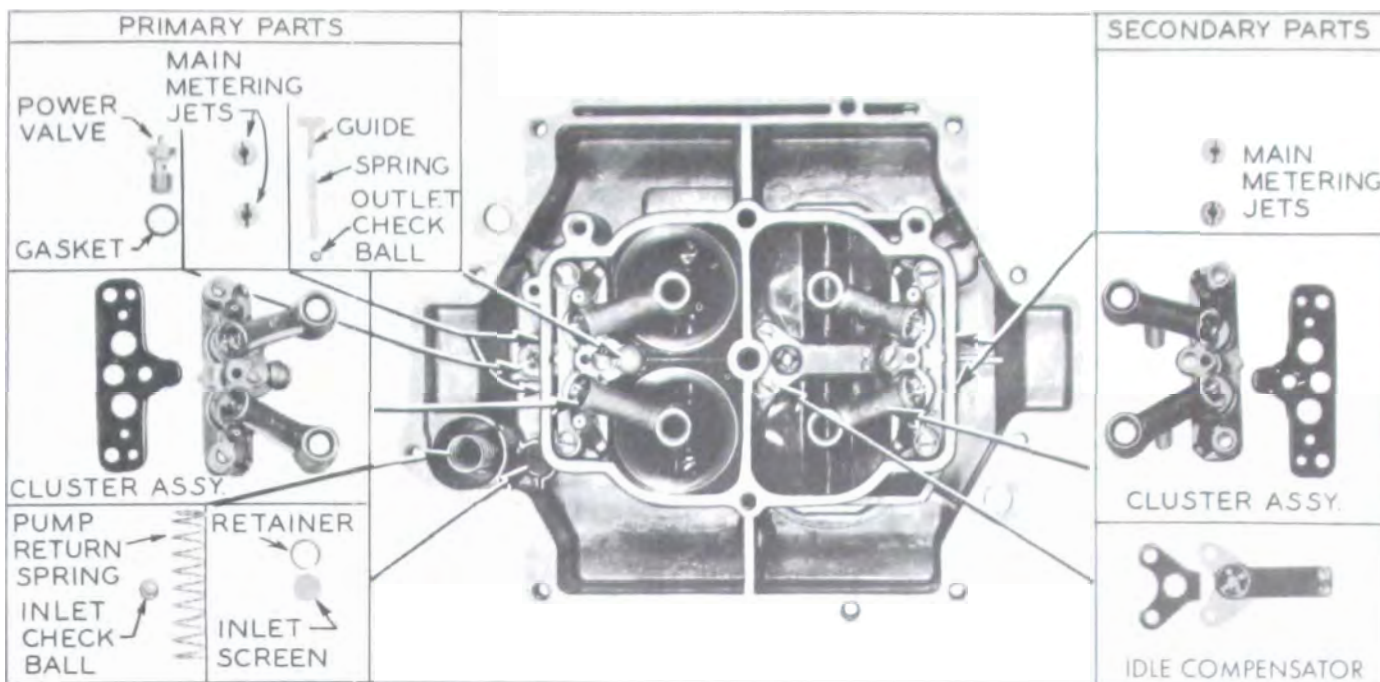

Figure 3-45—Main Body Parts
13. Remove both main metering jets from pump side of main body. See Figure 3-45.